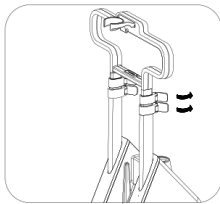

Fig. 4
- Pull the little telescopic pole, knob 90 degree, telescopic open. Fig.4.